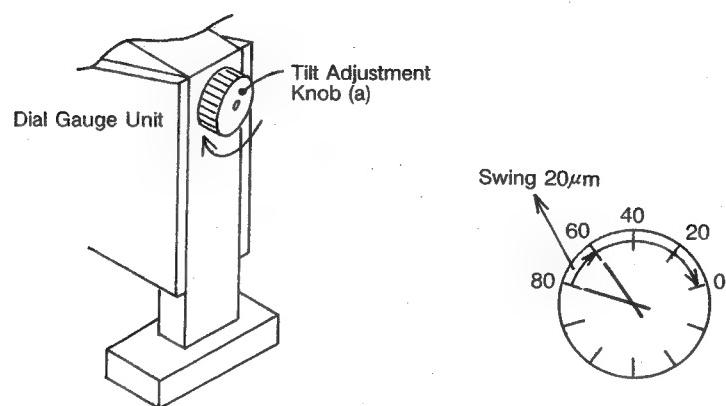

Fig. 7-7-6
- 1) Before installing the Dial Gauge Unit on the base Unit turn Tilt Adjustment Knob (a) clockwise until the meter of dial gauge swings $20 \mu\text{m}$ as shown in figure 7-7-6.